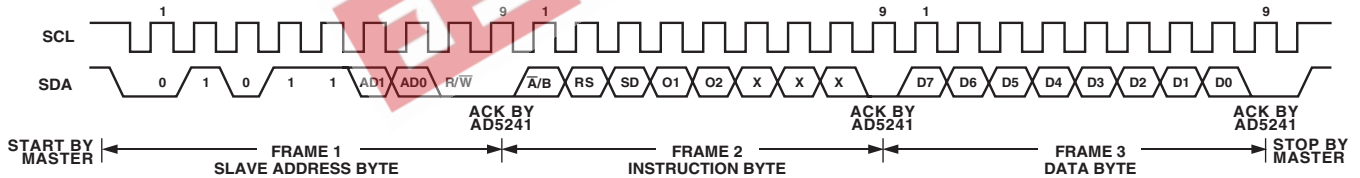

Figure 2. Writing to the RDAC Serial Register
The AD5241/AD5242 are controlled via an I²C compatible serial bus. The RDACs are connected to this bus as slave devices. Referring to Figures 2 and 3, the first byte of AD5241/AD5242 is a Slave Address Byte. It has a 7-bit slave address and an R_W Bit. The 5 MSBs are 01011 and the following two bits are determined by the state of the AD0 and AD1 Pins of the device. AD0 and AD1 allow users to use up to four of these devices on one bus.
1. The master initiates data transfer by establishing a START condition, which is when a high-to-low transition on the SDA line occurs while SCL is high (Figure 2). The following byte is the Slave Address Byte, Frame 1, which consists of the 7-bit slave address followed by an R_W Bit (this bit determines whether data will be read from or written to the slave device).
Pin except that $\overline{\text{SHDN}}$ Pin reacts to active low. The following two bits are O_2 and O_1 . They are extra programmable logic outputs that users can use to drive other digital loads, logic gates, LED drivers, analog switches, and the like. The three LSBs are Don't Care. See Figure 2.
3. After acknowledging the Instruction Byte, the last byte in Write Mode is the Data Byte, Frame 3. Data is transmitted over the serial bus in sequences of nine clock pulses (eight data bits followed by an Acknowledge Bit). The transitions on the SDA line must occur during the low period of SCL and remain stable during the high period of SCL (Figure 2).
5. When all Data Bits have been read or written, a STOP condition is established by the master. A STOP condition is defined as a low-to-high transition on the SDA line while SCL is high. In Write Mode, the master will pull the SDA line high during the tenth clock pulse to establish a STOP condition (see Figure 2). In Read Mode, the master will issue a No Acknowledge for the ninth clock pulse (i.e., the SDA line remains high). The master will then bring the SDA line low before the tenth clock pulse, which goes high to establish a STOP condition (see Figure 3).
Specific to the AD5242 dual-channel device, the channel of interest is the one that was previously selected in the Write Mode. In addition, to read both RDAC values consecutively, users have to perform two write-read cycles. For example, users may first specify the RDAC1 subaddress in the Write Mode (it is not necessary to issue the Data Byte and the STOP condition), then change to the Read Mode and read the RDAC1 value. To continue reading the RDAC2 value, users have to switch back to the Write Mode and specify the subaddress, then switch once again to the Read Mode and read the RDAC2 value. It is not necessary to issue the Write Mode Data Byte or the first stop condition for this operation. Users should refer to Figures 2 and 3 for the programming format.